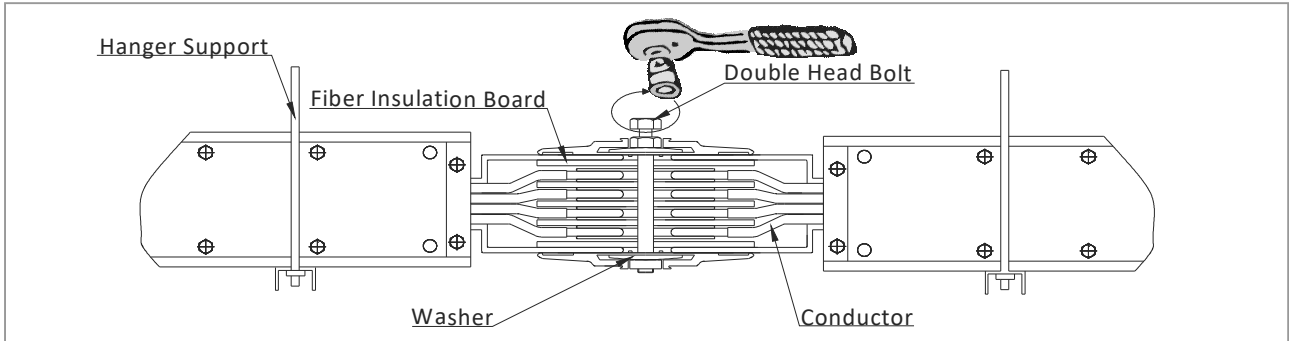

Figure 7.1
4. Tighten the screw until the screw cap is broken and the tag fall (Figure 7.1 & 7.2) means the torque is applied. If necessary, use the torque wrench for double checking the tighten of the bolt. ***Make sure the minimum torque is 50 lb-ft or 68N-m.***